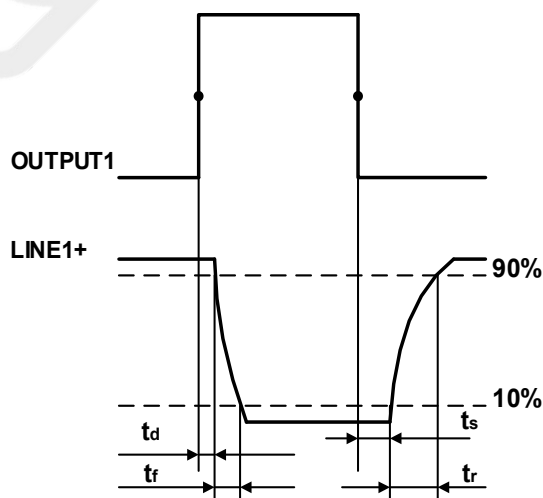

Figure 7-6 Parameter of opto-isolated output circuit (GigE)
- Rising time delay = $t_r + t_d$: < 50 μ s (0 °C ~ 45 °C) (parameter description: Figure 7-6)
- Falling time delay = $t_s + t_f$: < 50 μ s (0 °C ~ 45 °C) (parameter description: Figure 7-6)